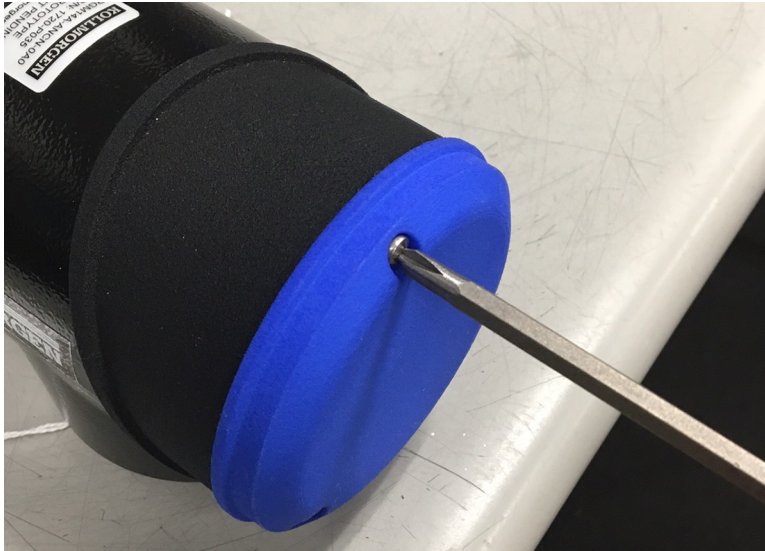

Figure 8: Remove the blue cover
1. Remove the 3 screws and blue rear cover as shown in **Figure 8**.